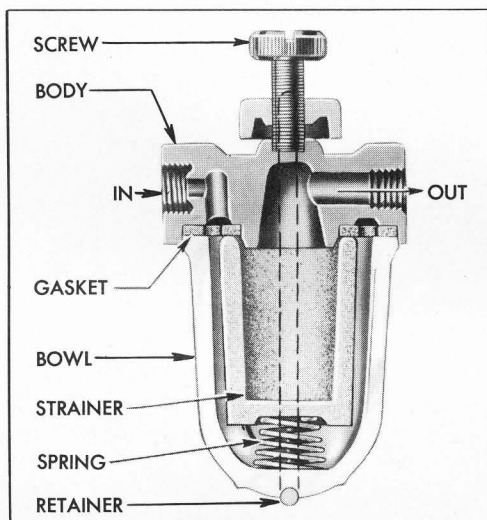

Figure 3-11—Carter Ceramic Type Gasoline Filter—Sectional View
1. Use Z-shaped Wrench KMO 655 to remove screw and gasket then remove bowl, gasket, and strainer from lower end of fuel pump. See figure 3-11.
1. Loosen bowl retainer screw, swing bowl retainer to one side and remove bowl, ceramic strainer, and spring. See figure 3-11.